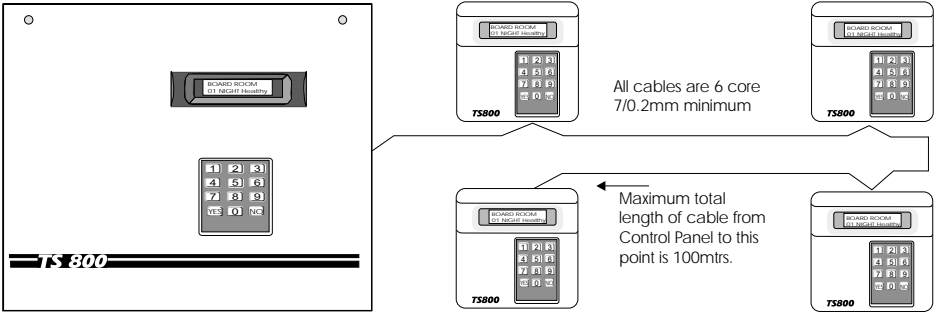

Fig 5 Remote Connection - Daisy Chain Method
- (1) In a Daisy Chain configuration in which case the cable length to the last Remote Keypad must not exceed 100m to prevent excessive voltage drop in the cables (Fig 5);